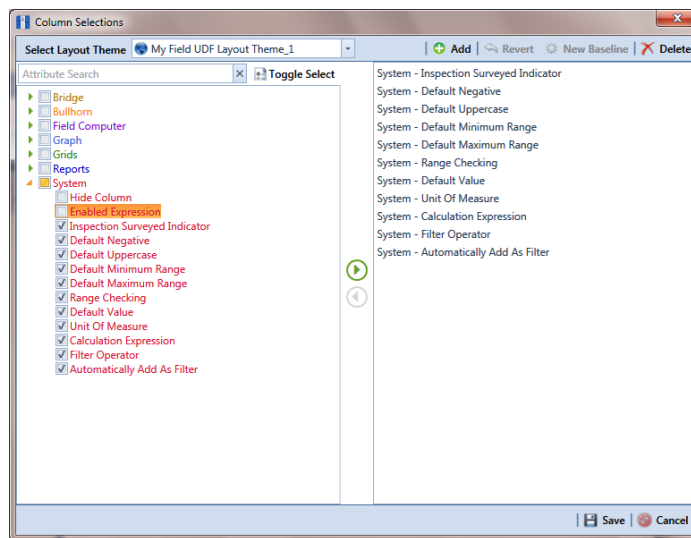

Figure 3-28. Column Selections
- 8 Choose which fields to include in the layout theme. Select a field in the left pane and then click the top arrow button  to move the field to the right pane. Repeat this step as needed (Figure 3-28, page 66).
- a Click  **Customize** to open the *Column Selections* dialog box (Figure 3-28, page 66).